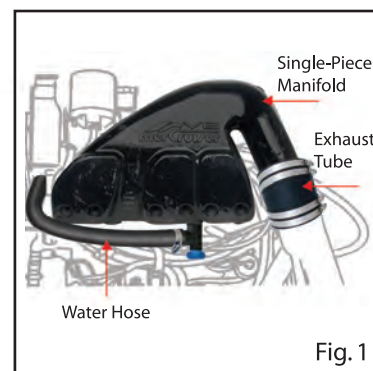

Fig. 1
2. Disconnect the water hose from the fitting on the bottom of the manifold (see Fig. 1).